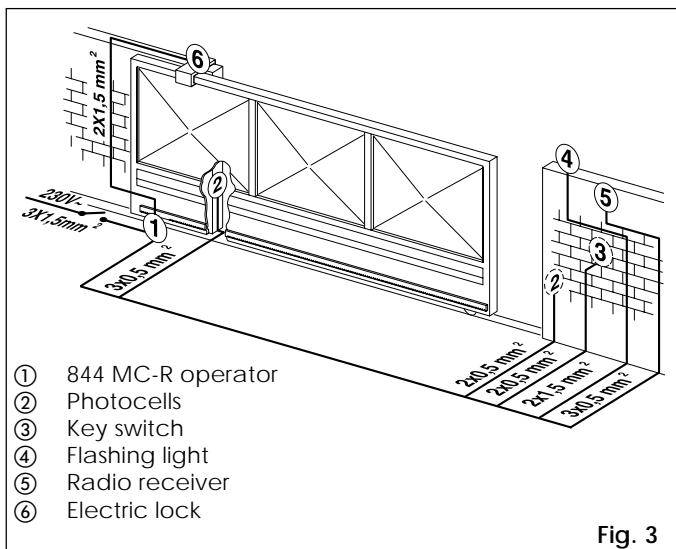

Fig. 3
- 4) Lay the electrical cables for connection to the accessories and the electricity supply as shown in Fig. 3. For ease of connection, ensure that the cables protrude by about 45 cm from the hole in the base plate (Figs. 5-6 ref. 1).
As shown in Fig. 3, lay the conduits and make the electrical